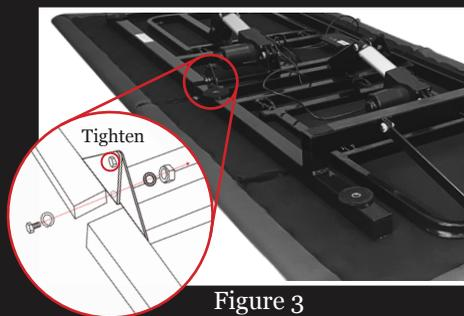

Figure 3
Secure base stability by locking hinge joints on bed frame using (1) bolt, (1) flat washer, (1) lock washer, and (1) nut for each hinge joint as shown. Ensure that ALL nuts and bolts on hinge joints are tight. (See Figure 3 on next page.)